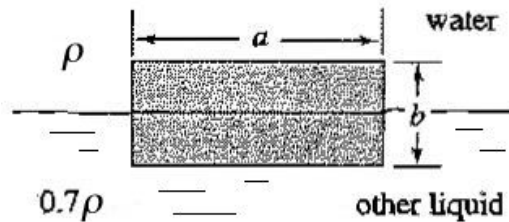

Figure P2.83
2.83 A rectangular body of length a and width b has a specific gravity of 0.8. It floats at the interface between water and another liquid with a specific gravity of 0.7, as shown in Figure P2.83. If $a > b$, find the position of the body relative to the interface between the two fluids.